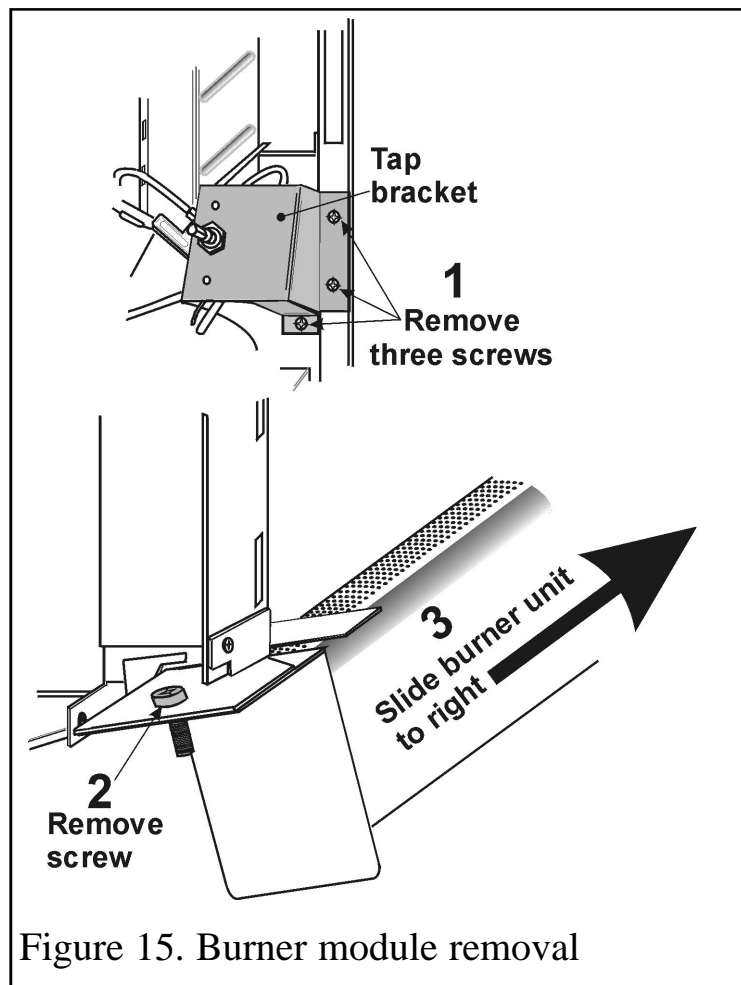

Figure 15. Burner module removal
9.8.4 Detach the gas tap bracket from the right side of the appliance by removing three screws (See figure 15).
9.8.5 Detach the left side of the burner from the firebox by removing one screw (See figure 15).
9.8.6 Free the burner & pilot module from the rear pilot air pipe and the firebox by carefully sliding the module to the right while pulling it slightly (See figures 15 and 16).